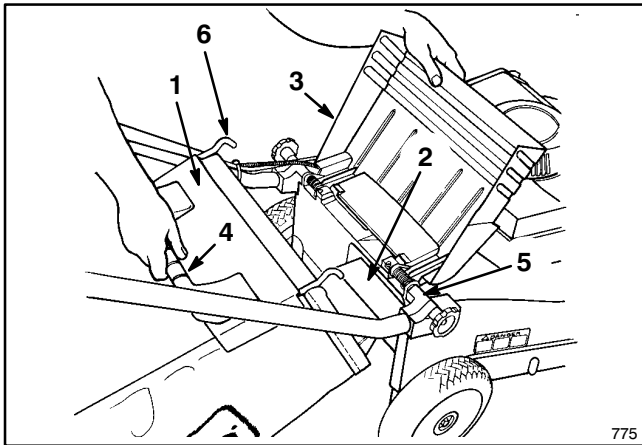

Figure 5
1. Raise discharge door, slide bag ramp attached to bag into discharge opening, and hook bag frame onto rounded portion of mounting brackets (Fig. 5).